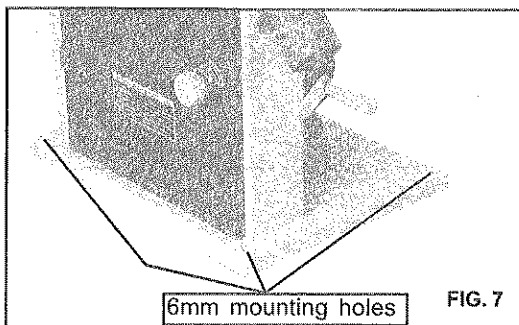

FIG. 7
g. To ensure sufficient upright stability of the machine it should be bolted to open stand (See the previous instruction how to place the machine on to the open stand ). For this purpose 6mm mounting holes are provided in the machine's base. (See FIG.7)